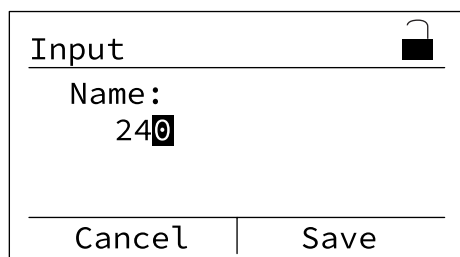

Figure 1-18. Change “Name”
4. See Figure 1-18. The name is the MODBUS address of the Switch. Change it to 240-243 depending on which switch you want to configure in GenLink.